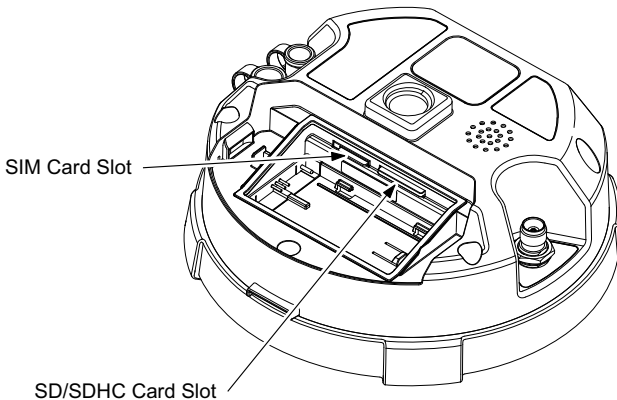

Figure 1-12. GRX1 Card Slot Example
**The SD/SDHC card slot** is located inside the battery pocket (Figure 1-12 on page 1-22). Once installed, the SD/SDHC card can be removed from the receiver. The data that resides on the SD/SDHC card can be accessed by removing the card and using an external SD/SDHC card reader, or by using SOKKIA software to download the data via a serial or Bluetooth connection. A secure digital card can be purchased from a local Sokkia dealer. The SD/SDHC card is